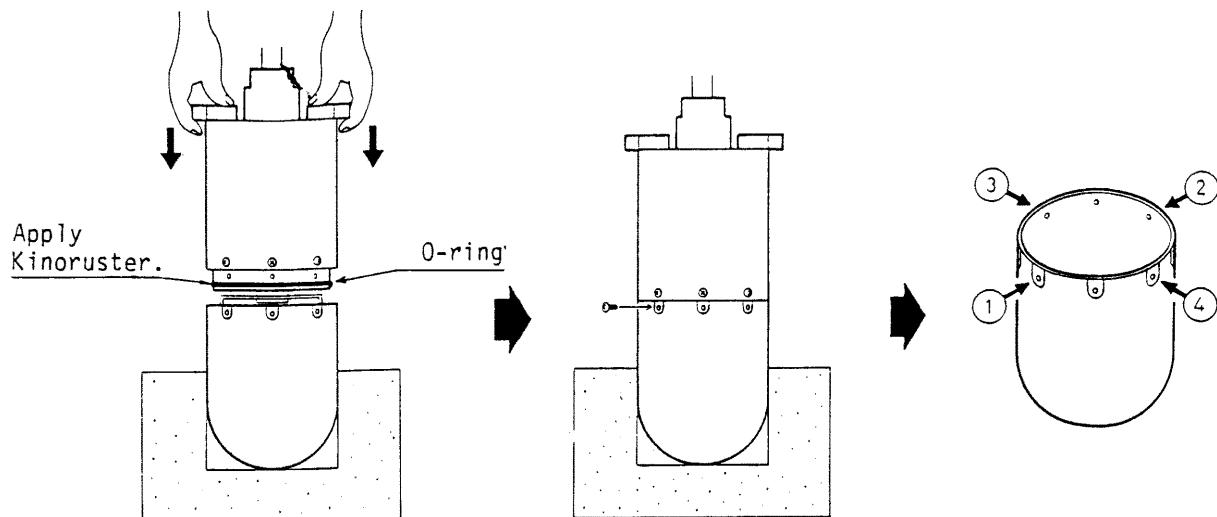

Figure 5.3
- 1) Fill the soundome (D) with oil up to the white line on the inner surface.
- 4) Fit the upper dome assembly into the soundome (D), marking sure that screw holes are aligned.
- 6) Fasten the screws securely in diagonal order, especially for the first four screws maked by 1 to 4 in Fig. 5.3.